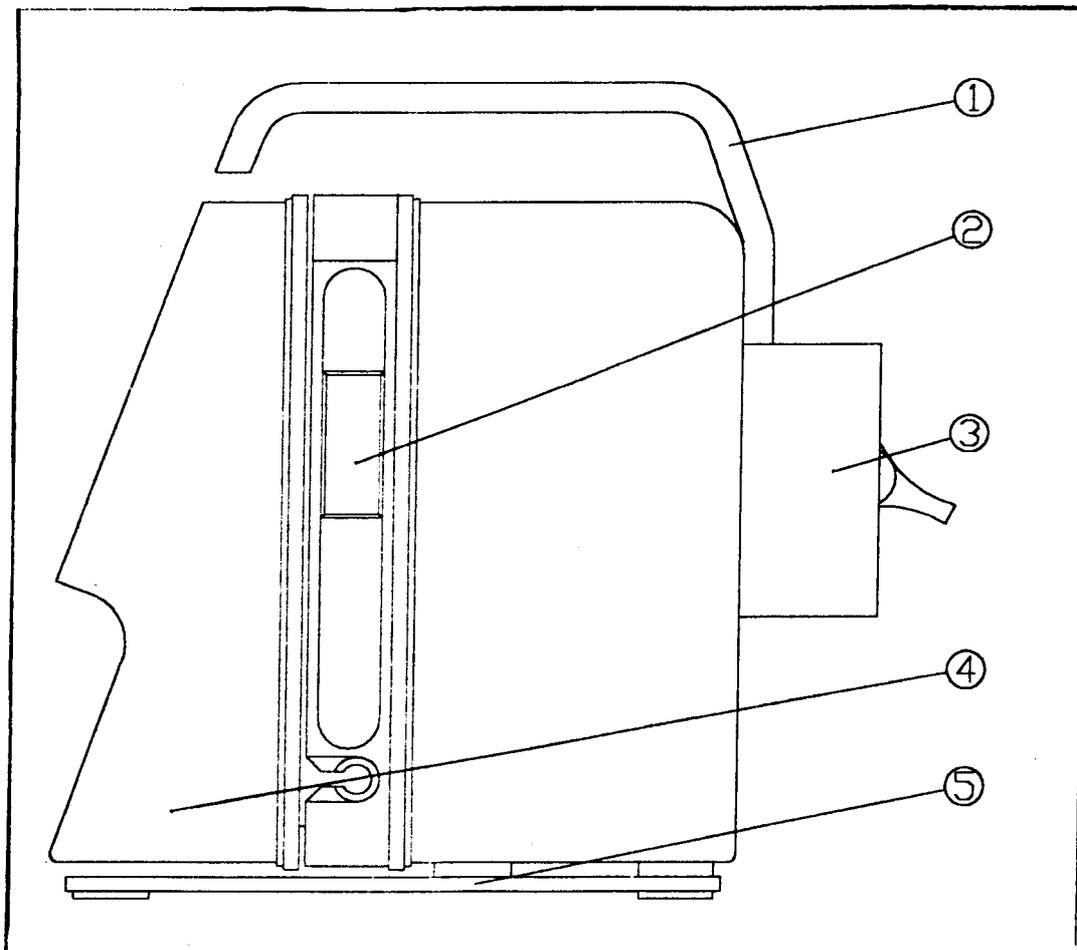

Fig. 3. AP 31P back view
| fig.3 - back view | 7 |
- mount the pump on a stand, bed frame or on any flat surface by the patient, with the use of the jig (2, fig. 3) and screwing knob(3, fig.3)
- plug the pump to an AC 220V outlet using the supplied cable with adapter, connect to the power jack of the pump (8, fig.3) - which should make the "MAINS" green indicator light-up fig.6
- connect the drop detector to the detector jack at the rear of the pump (5, fig.3) - push softly in and turn right the hoop for secure connection. Position the drop detector temporarily on the pump handle